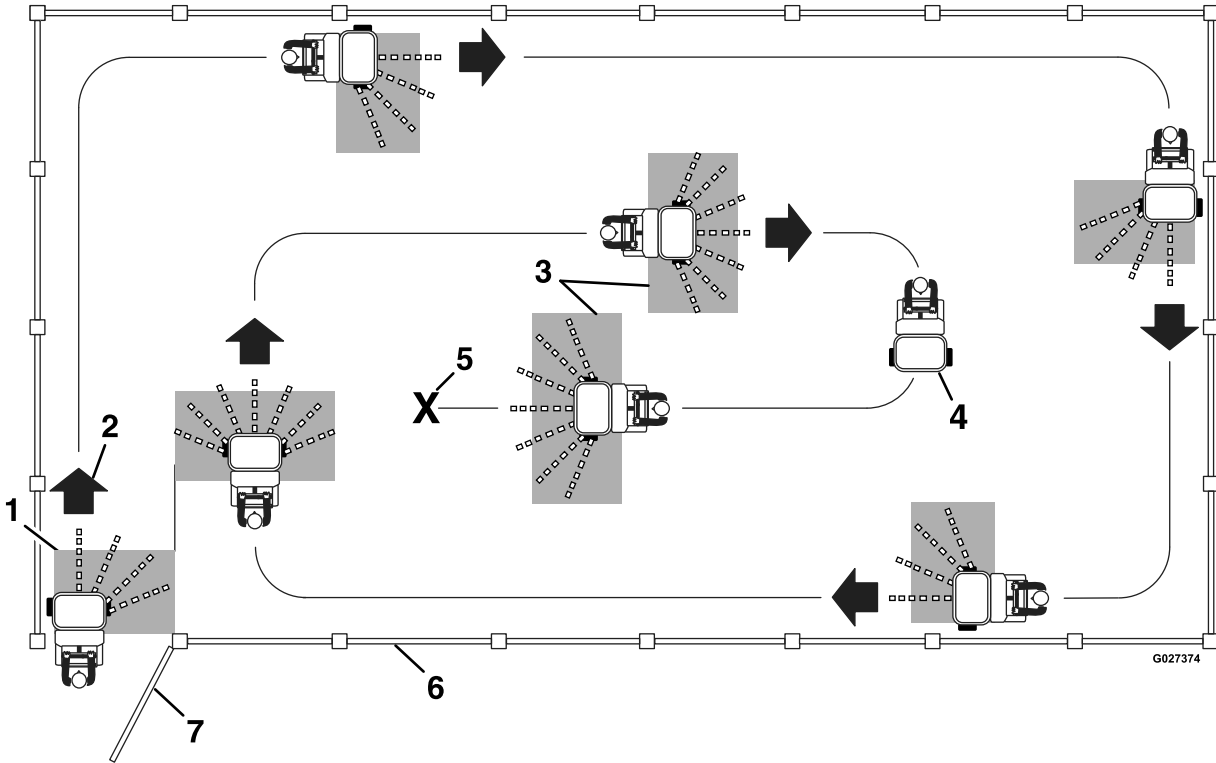

Figure 35
- To ensure uniform application, broadcast the material in an overlapping pattern as shown in Figure 35.